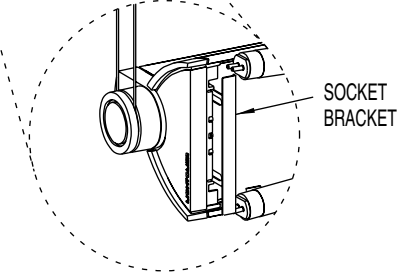

Fig. 22
6. Push SOCKET BRACKETS back into their original position (see Fig. 22).